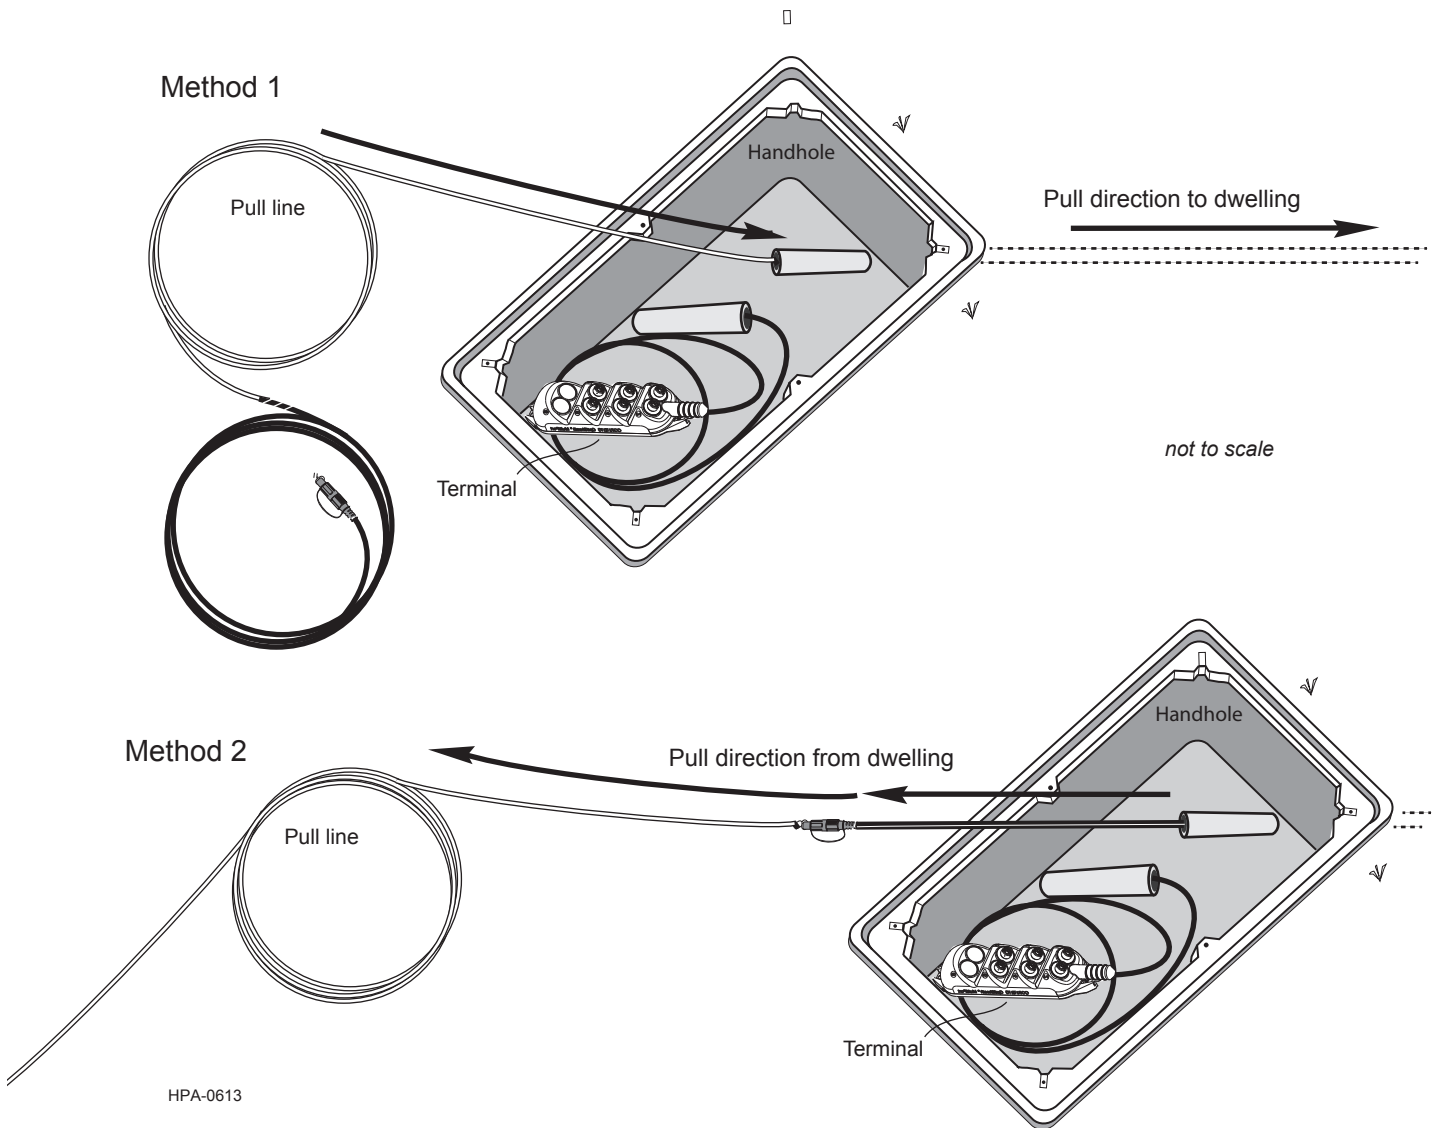

Figure 14
**5.10** The jumper may be pulled through the duct using either Method 1 or 2 (see Figure 14).